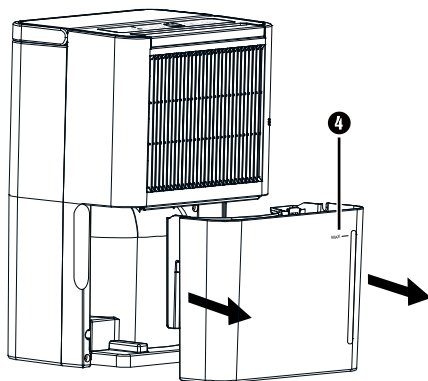

Fig. 2
- ◆ Carefully pull the water tank **4** out of the appliance using the recessed grips on the side (see figure 2).